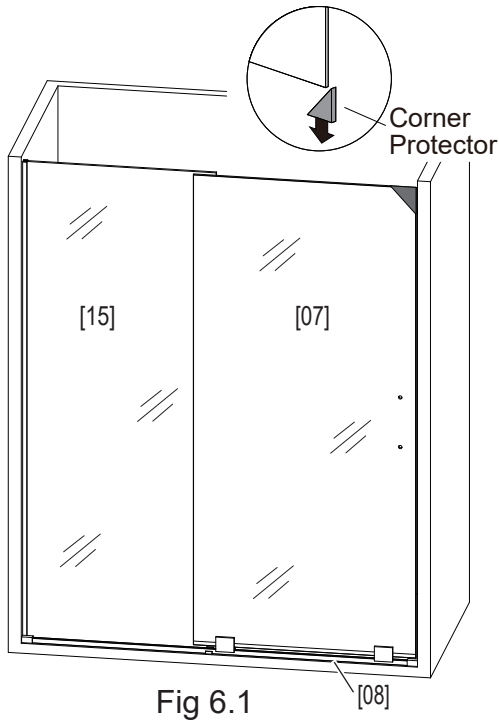

Fig 6.1
1. Remove the **Corner Protector** at the top right of the **Door [07]**. Slightly place the **Door [07]** assembly onto the **Bottom Rail [08]** as figure shows. (Fig 6.1)